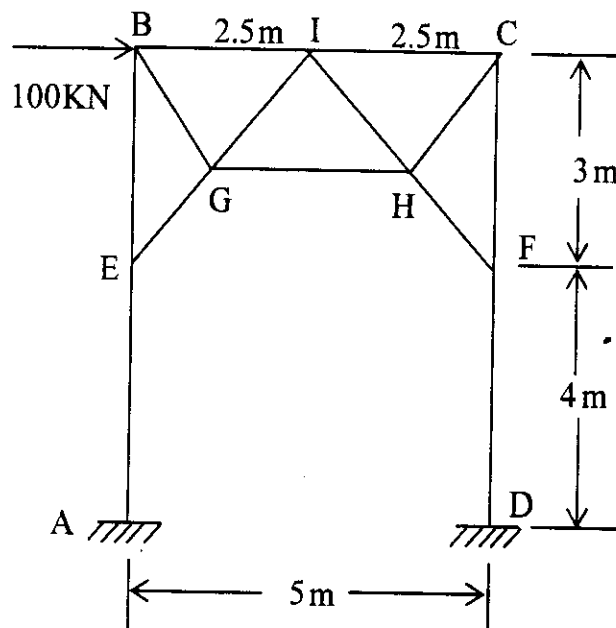

Fig1
- Q.3 An 'A' type portal bracing has been used in a through type truss girder bridge. It is subjected to a lateral horizontal force of 100 kN as shown in Fig 1. Analyse the frame completely. Also find the portal effect in the bottom chords of the truss girders, if the end posts are inclined at 50° to the horizontal. [20]